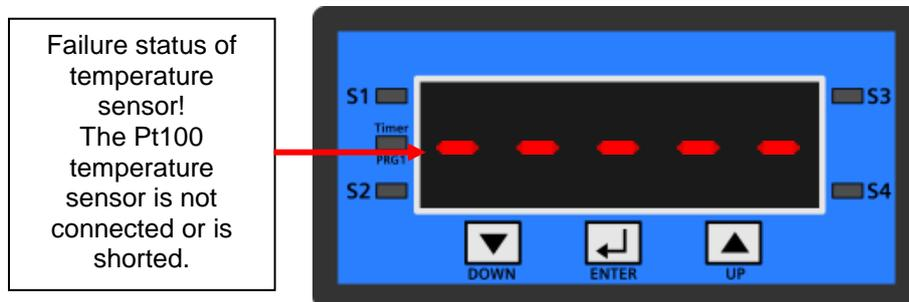

Fig. 6.3.1-1 Function of buttons and signal lamps on the control unit
6.3.1 Description of the UZJ3-P control unit, see in Fig. 6.3.1-1